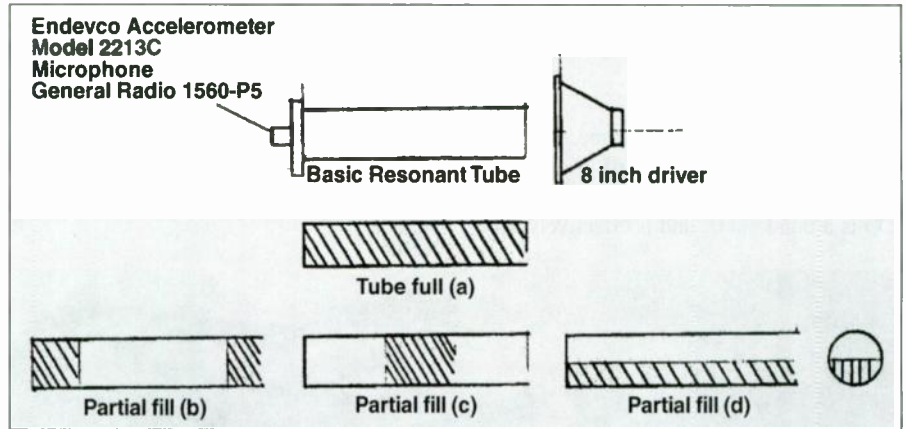
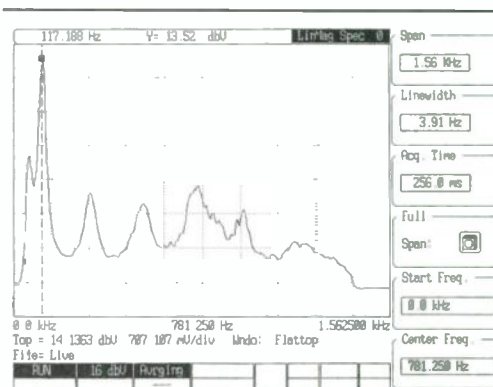

FIGURE 1: The experimental apparatus.
FIGURE 8: The fully loaded 3" tube.
The experimental apparatus that I used is shown in *Fig. 1*. This was a resonant tube excited by an 8" free-air driver with either an accelerometer or microphone at the closed end to determine the resonant modes. I used two tubes, one 2.5" in diameter and 17" long, and the other 3" in diameter and 29" long. The shorter tube used the accelerometer while the 29" one used the microphone.
*Figure 4* is a frequency sweep of the small tube fully loaded (*a* in *Fig. 1*), i.e., equal-density loading for the whole volume at 0.66 lb/ft3. The resonant point does move to a lower frequency—from free-air resonance of 185Hz to 125Hz. This is not as much of a reduction as Bradbury would predict. His theory would
Figures 5 and 6 show different loadings. Figure 5 (b in Fig. 1) and Fig. 6 (c in Fig. 1) show a split pack, where the plug is about half the volume of the tube at a density of 0.66 lb/ft3. Figure 7 is for the filler in one-half of the volume, but only on the bottom half (d in Fig. 1). Figure 8 is for the fully loaded 3" tube at a density of about 0.4 lb/ft3.